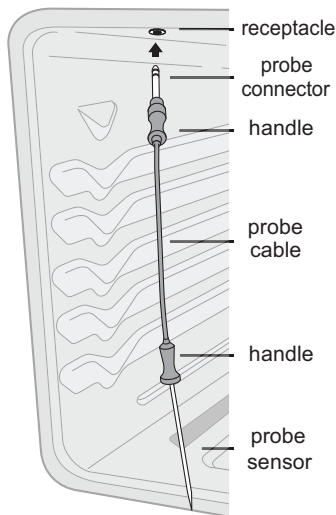

Figure 16: Using the probe
Do not use kitchen utensils to pull on the probe cable or handles. Always insert and remove the meat probe using the provided handles, as shown in Figure 16, and always use a pot holder to protect hands from possible burns.
2. Plug the connector end of the meat probe all the way into the probe receptacle while the oven is still cool. The receptacle is located on the upper left front oven cavity wall (See Figure 16). Close oven door.